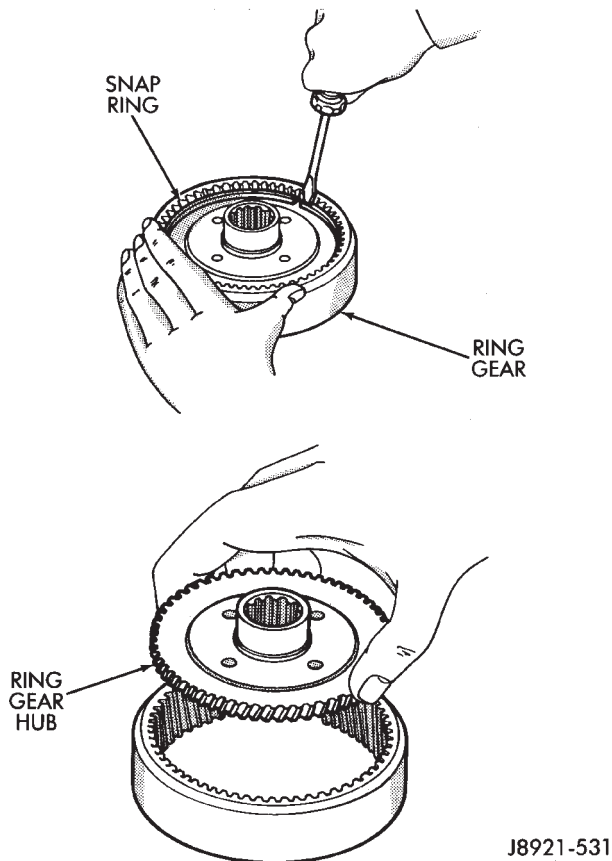

Fig. 11 Removing Ring Gear Hub
(13) Remove snap ring from ring gear and remove ring gear hub (Fig. 11).